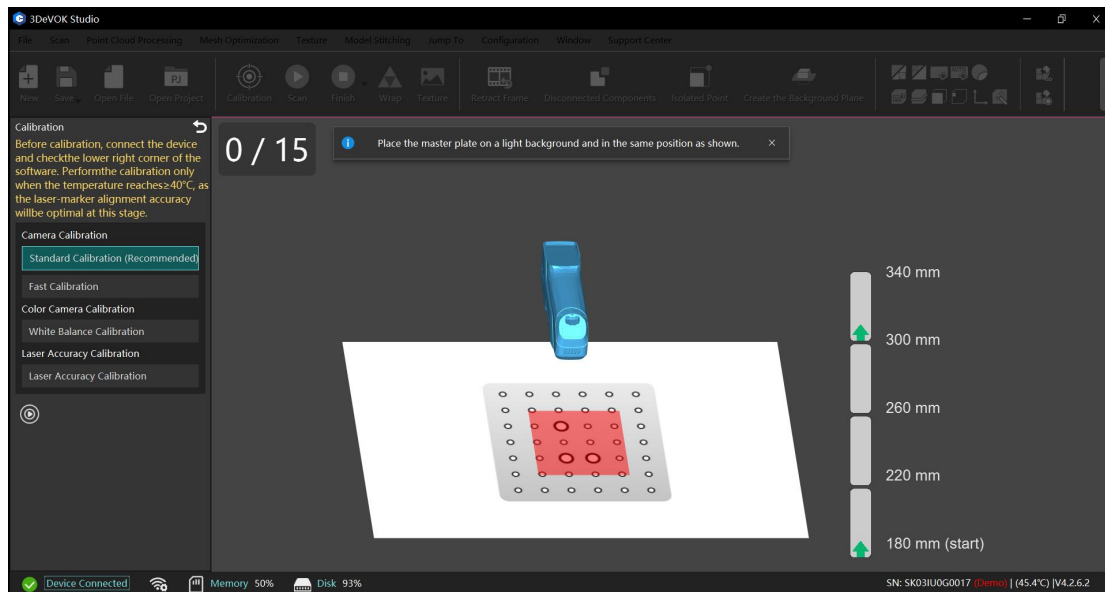

Figure 6-2 Standard Calibration
2. Click  for device calibration, and follow the steps shown in Figure 6-2.